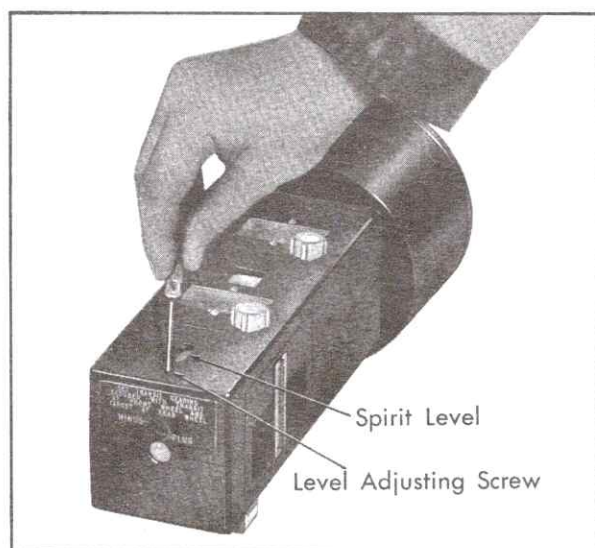

Fig. 12-10 Readjusting Vertical Calibrator
1. With equipment left in place, turn level adjusting screw until bubble is centered on level to obtain correct vertical adjustment, Fig. 12-10.